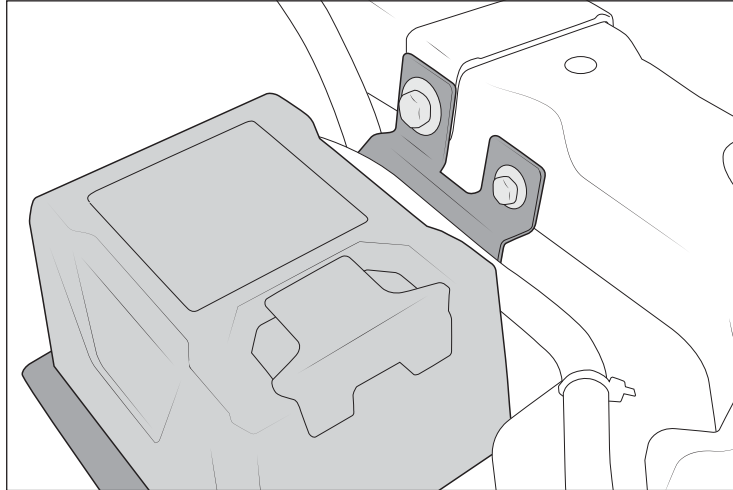

Figure 12
2. Position the controller bracket in place and loosely install the radiator support bolts removed earlier (fig. 12).